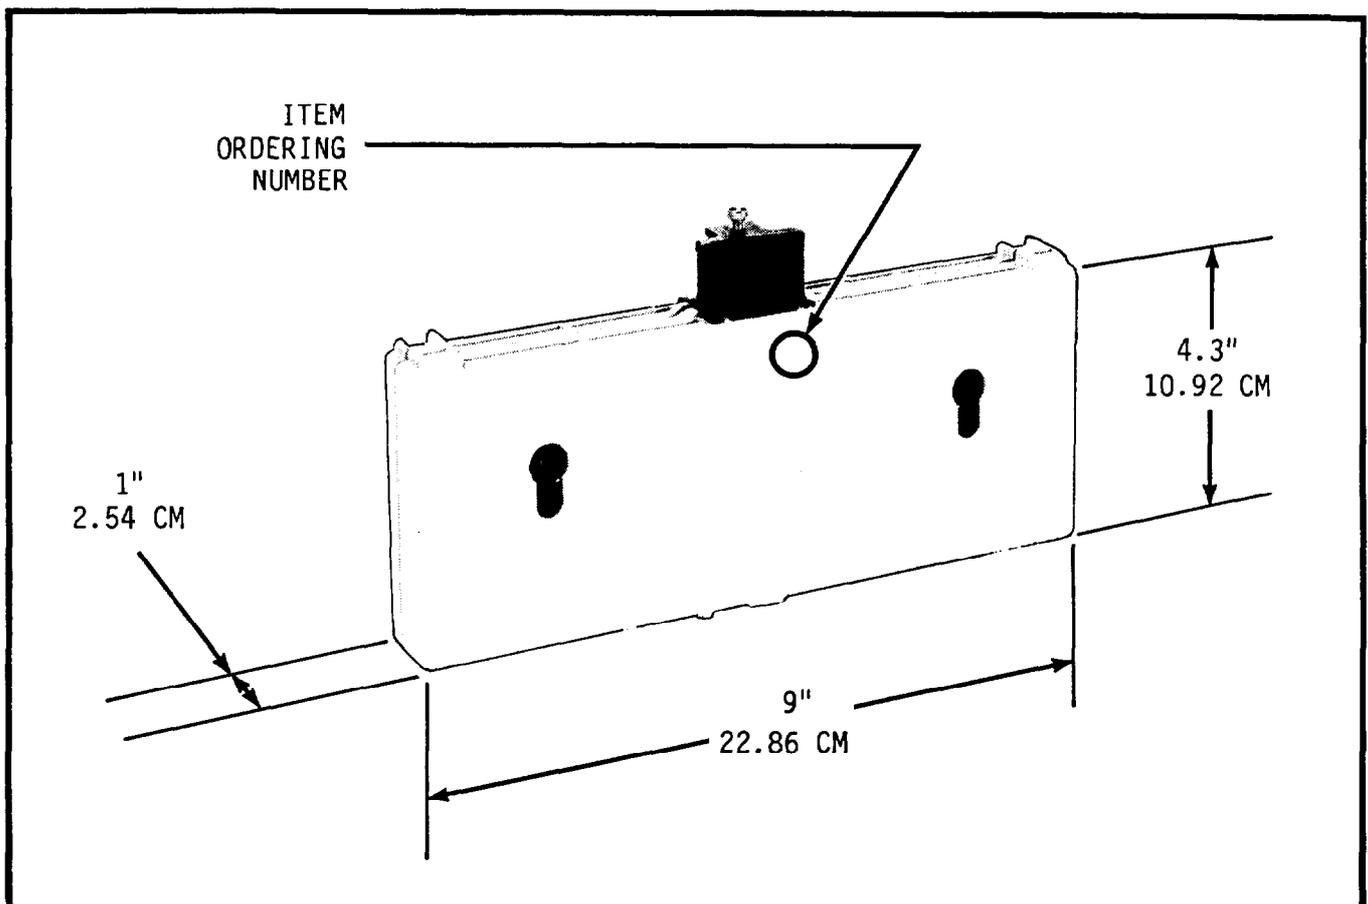

Figure 1 M-164-71 Converter
1.01 This technical practice applies to TELTONE M-164-71* CONVERT-A-PAK™ tone-to-pulse converters (see Figure 1). Descriptions, ordering information, installation procedures, and troubleshooting procedures are provided.
3.03 The M-164-71 is packaged in a thermal plastic housing as shown in Figure 1. The housing meets UL94 V-0 requirements. The M-164-71 includes all the interface circuitry, logic elements, and DTMF receiver functions to convert one linefinder or selector. The unit operates on the same -48 volt battery supply as other telephone equipment.